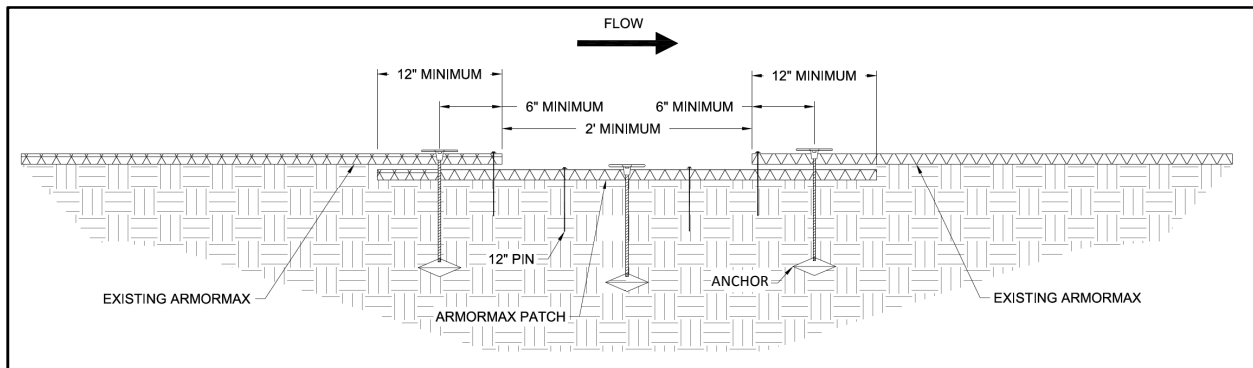
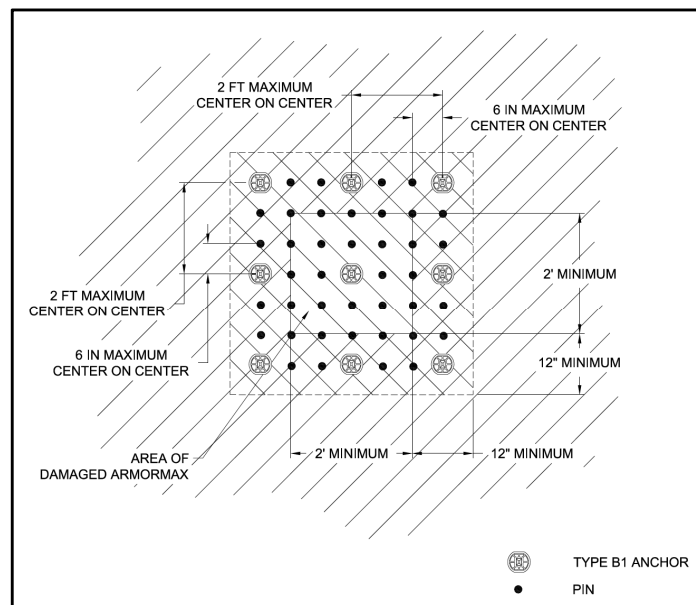

Figure 30: ARMORMAX Patch Cross Section
Figure 31: ARMORMAX Patch Plan View
- A. *Acceptable* (A) - The rated area is in satisfactory, acceptable condition, and will function as designed and intended during the rain event. ARMORMAX has no exposed edges, is installed tightly by maintaining direct contact to the channel surface with no rilling beneath, and has over 90% vegetation cover. There is no noticeable damage present.
- B. *Minimally Acceptable* (M) - The rated area has a minor deficiency that needs to be corrected. The minor deficiency will not seriously impair the functioning of the area during the next rain event; however, the overall reliability of the project will be lowered because of the minor deficiency. ARMORMAX has 75% vegetation cover with un-vegetated patches as large as one square yard. Edges of ARMORMAX are exposed with noticeable damage. Minimal erosion has occurred underneath ARMORMAX.
- C. *Unacceptable* (U) - The rated area is unsatisfactory. The deficiency is so serious that the area will not adequately function in the next rain event. ARMORMAX has been physically torn, ripped, or lifted from the channel surface. Less than 75% vegetation cover is present with un-vegetated patches being greater than 1 square yard, and there is evidence that erosion is occurring beneath ARMORMAX.
3. To repair ARMORMAX, cut out and remove damaged areas in a square configuration a minimum size of 2 ft by 2 ft. Remove all vegetation and debris atop of ARMORMAX. Loosen the top 1 to 2 in of soil in the patch area then seed. The subgrade of area to be patched shall be prepared to be smooth and uniform and transition smoothly into the in-situ area. Cut a square ARMORMAX patch a minimum of 12 in greater than the damaged area for all four sides of the patch. Overlap the patch area in all directions a minimum of 12 in. The patch overlaps shall be tucked under the existing damaged ARMORMAX material (Figure 30 and Figure 31).